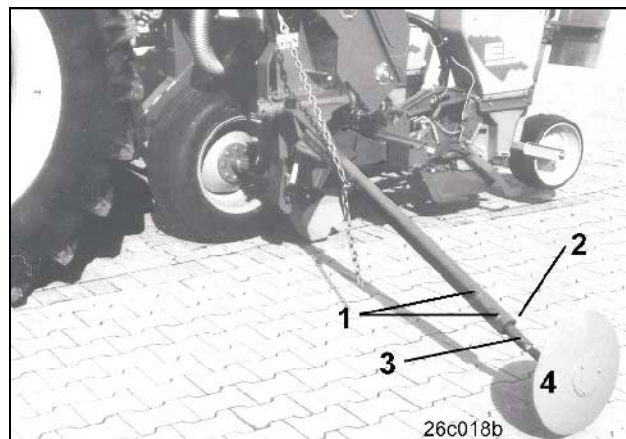

Fig. 98
- Slacken clamping bolts (Fig. 98/1)
- Pull out marker arm (Fig. 98/2) in the necessary length
- Slacken clamping bolt (Fig. 98/3) and pull out marker disc (Fig. 98/4).